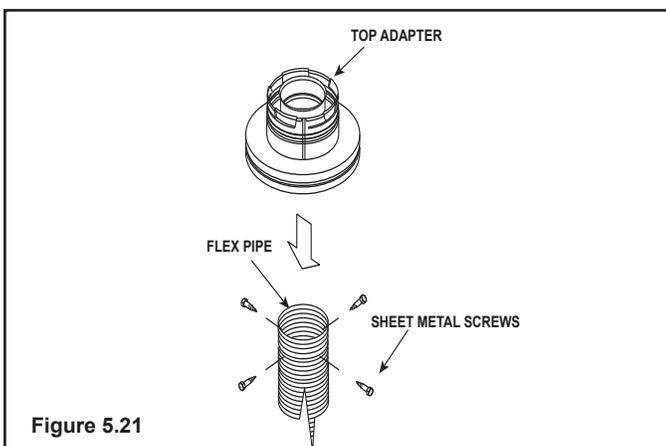

Figure 5.21
3. Connect the end of the flex pipe section to the underside of the top adapter, using four sheet metal screws (Figure 5.21).
5. Connect the flex liner to the top adapter using three sheet metal screws (Figure 5.21 page 20).